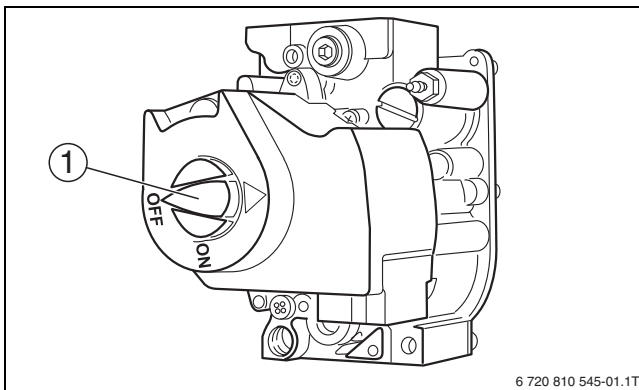

Fig. 3 Gas valve (OFF position)
- ▶ Turn the gas valve ON/OFF knob (→ Fig. 3 [1]) clockwise to the **OFF** position. Do not use excessive force.
- ▶ Turn the gas valve ON/OFF knob (→ Fig. 3 [1], page 5) clockwise to the **OFF** position. Do not use excessive force.